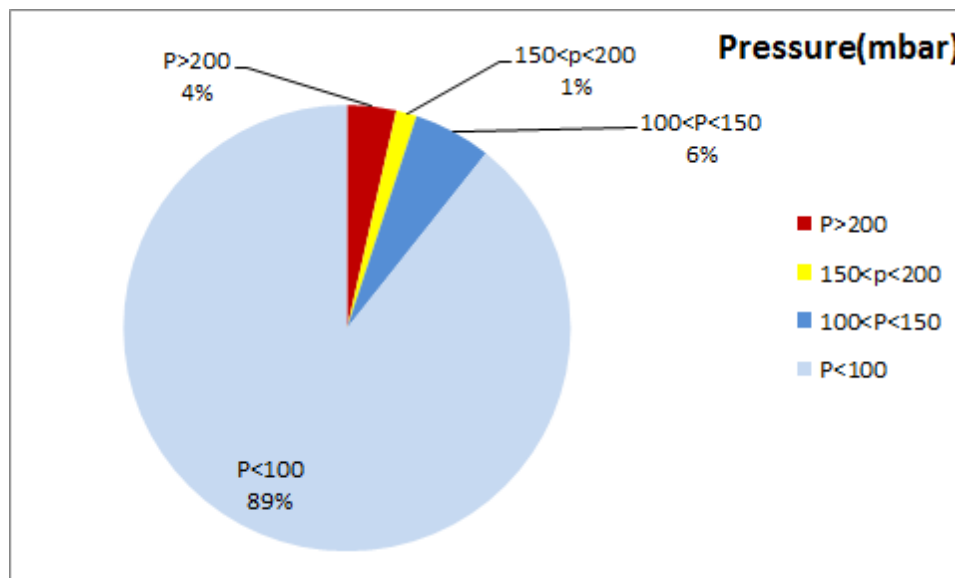

Figure 1- Pressure distribution over the working hours (after DPF installation)
- As depicted in Figure 1, 4% of total working time pressure is above 200 mbar and pressure above 600 mbar can be seen during this period.